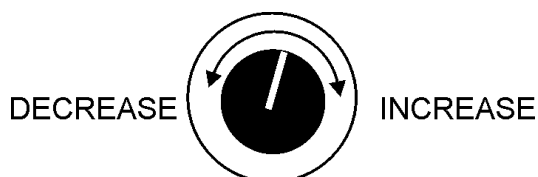

Figure 47. Voltage Adjust Control Knob
7. The generator's AC-voltmeter (Figure 47) will display the generator's output in **VOLTS**. If the voltage is not within the specified tolerance, use the voltage adjustment control knob (Figure 47) to increase or decrease the desired voltage.